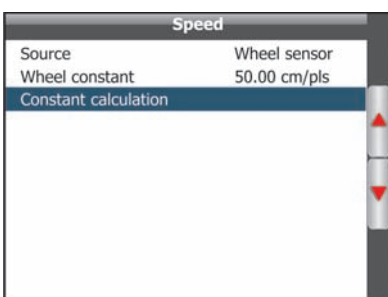

Fig. 192
- Select the item **Constant calculation** (Fig. 192) and press **OK**;